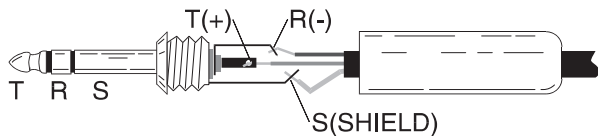

Figure 5. Balanced wiring of a 1/4” (6.3 mm) three-wire phone plug.
*If you have the RA150, which doesn't have an XLR input, you may use an XLR-F to TRS-M cable or adapter. The 1/4" input jack of the RA150 is balanced. (See Figure 5 on page 17.)*